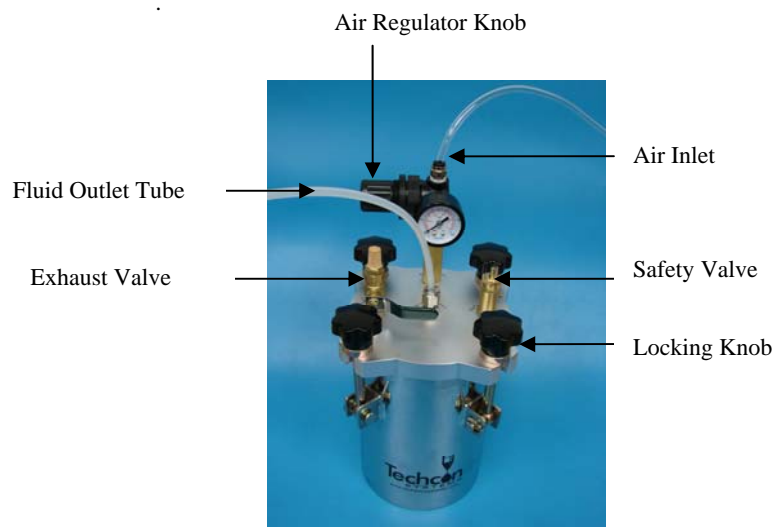

Figure 2- Setup
4.1 Setup Procedure (Refer to Figure 2)